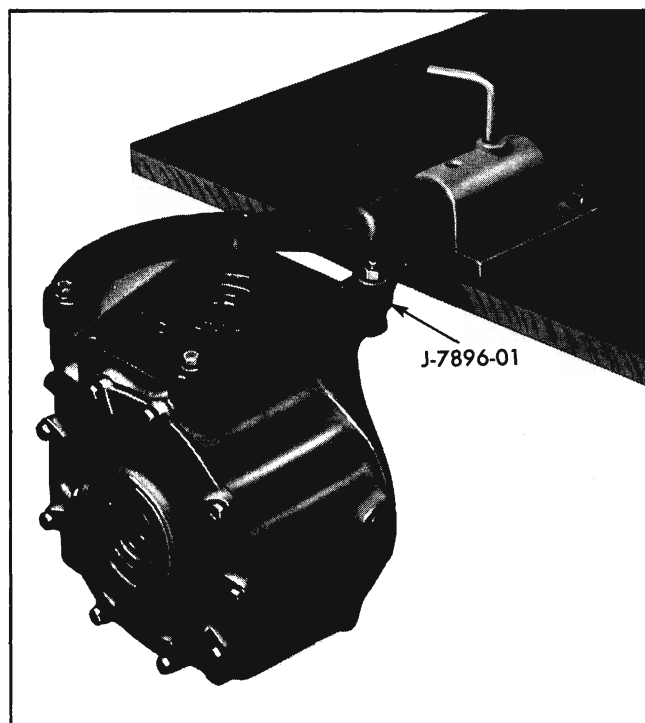

Fig. 4-26 Carrier Assembly Mounted on Fixture
3. Mount differential on holding fixture J-7896-01 (Fig. 4-26).